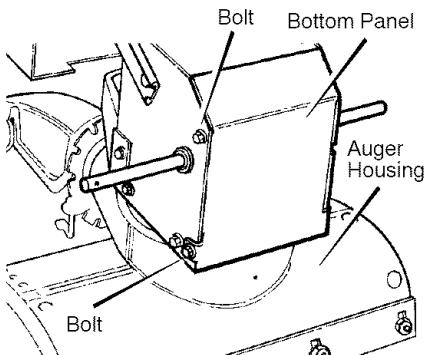

Figure 37
2. Stand the snow thrower up on the front end of the **auger housing** (see Figure 37).
4. Loosen the **bolts** on each side of the **bottom panel** (see Figure 37).
5. Install the **bottom panel** (see Figure 37).
2. Stand the snow thrower up on the front end of the **auger housing** (4). (see Figure 37).